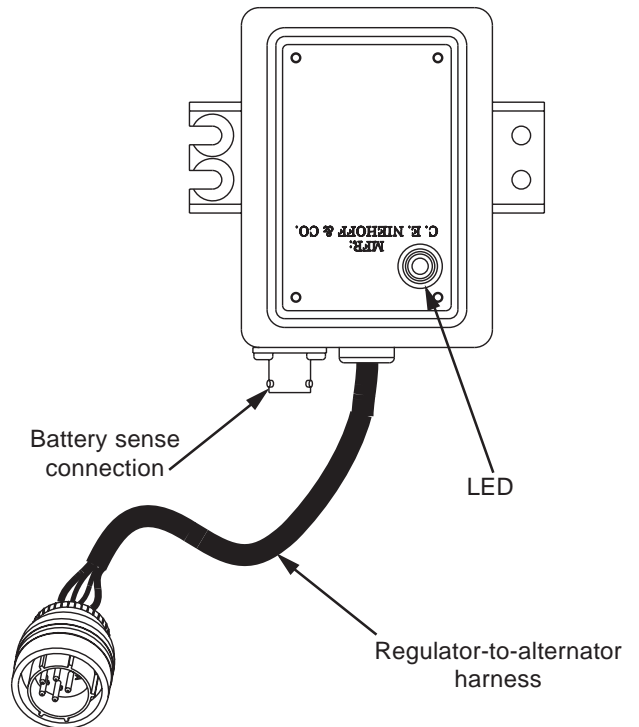

Figure 2 – N3202 Regulator
4. If battery sense connection is used with the application, connect as shown in Figure 2. Battery sensor connector monitors the actual battery terminal voltage and temperature. Temperature sensor is 10KΩ at 25°C and 1.256KΩ at 80°C. If battery sense connection is not used, the regulator reverts to an internal voltage and temperature reference.